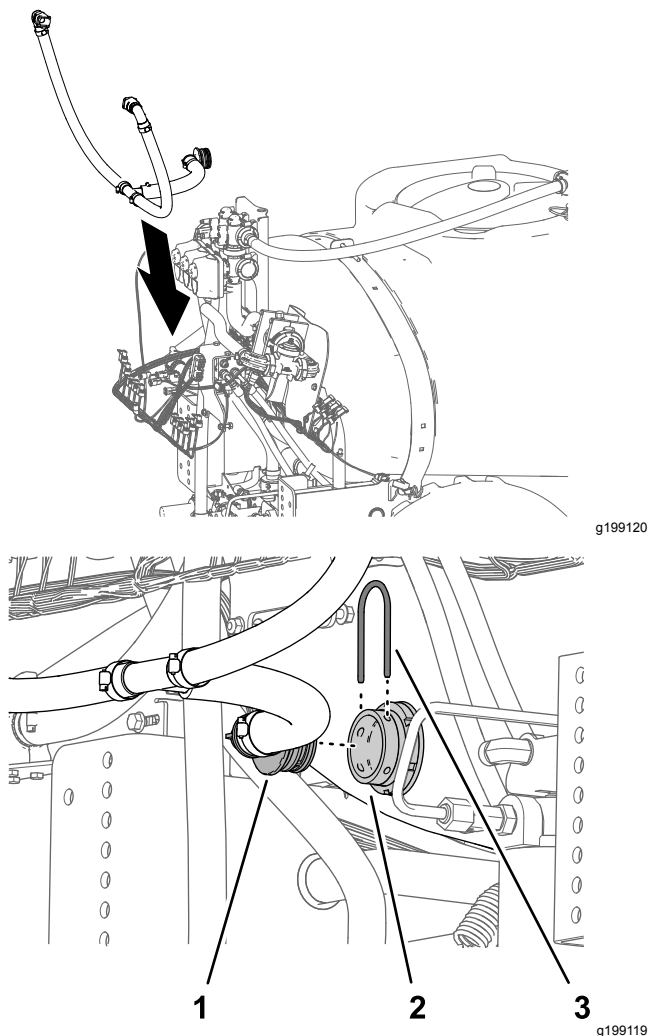

Figure 93
1. Align the bypass hose assembly to the sprayer tank (Figure 93).